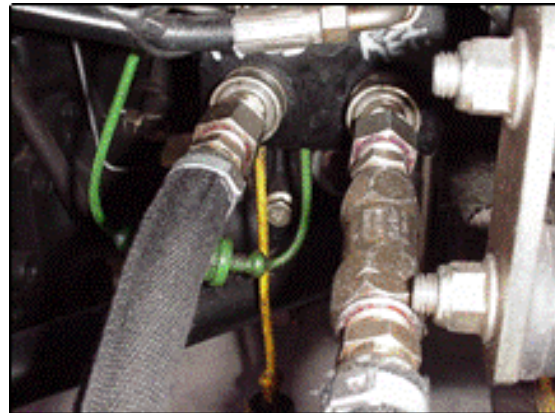

Figure 10: Hydraulic connections
15. Connect the ProPass hydraulic lines to the work vehicle's hydraulic connections (at the rear; see Figure 10). The line with the one-way flow check valve connects to the return connection on the work vehicle.
3. Disconnect the ProPass hydraulic lines from the work vehicle (Figure 10).